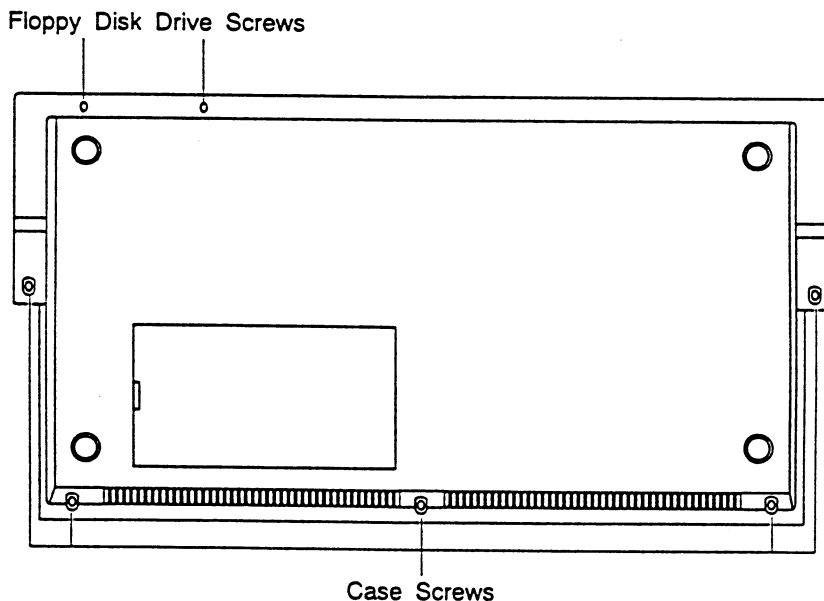
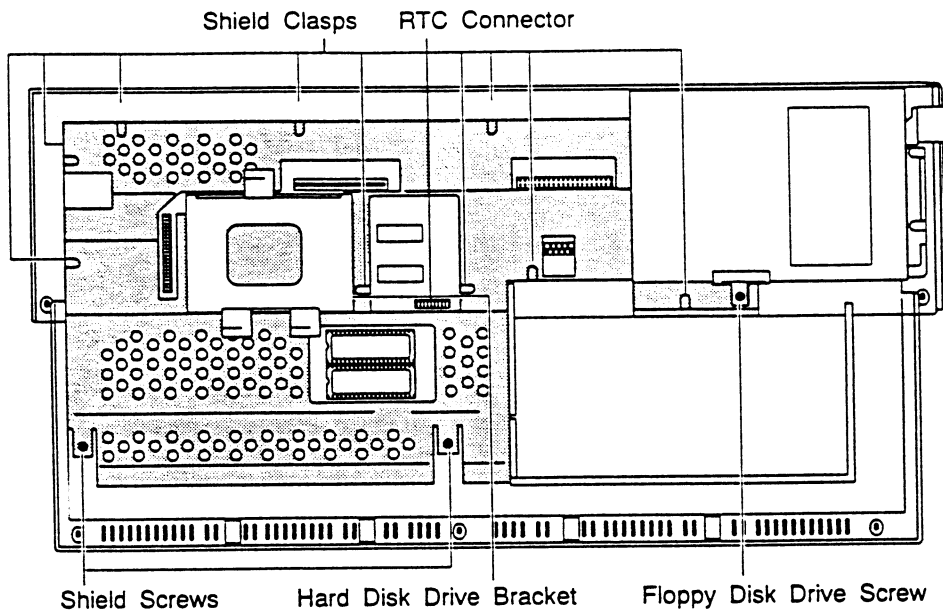

Figure 3-1. Bottom Panel Screw Locations
Figure 3-3. Removing the Hard Disk Drive Bracket, Floppy Disk Drive and Shield
1. Remove the A1200 system top cover screws. Turn the system over and remove the five case screws on the bottom panel as illustrated in Figure 3-1.
6. Remove the floppy disk drive. Locate the three floppy disk drive screws (two screws illustrated in Figure 3-1 and one in Figure 3-3) attaching the floppy disk drive to the system. Remove the screws and lift the floppy disk drive out of the system. Some systems have a shim between the floppy disk drive and the system case. If you remove it, match the holes in the shim with the screw holes in the system case when you replace it.
2. Remove the hard disk drive bracket. Locate the hard disk drive bracket illustrated in Figure 3-3. The bracket tabs go into slots on the motherboard. Lift it straight off the motherboard.
3. Remove the shield assembly. Locate the shield screws illustrated in Figure 3-3 and remove them. Lift the shield assembly out of the bottom of the system case.
4. Remove the motherboard. Locate the shield clasps illustrated in Figure 3-3 and bend them to an upright position. The clasps are sharp. Use caution when bending them. Lift the top shield off the bottom shield. Use a hex-nut screwdriver to remove the twelve jackpost screws from the connectors across the back of the motherboard. Lift the motherboard out of the bottom shield.